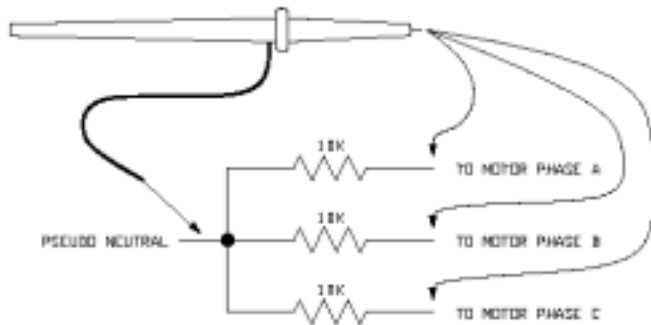

Figure 1-3: Motor Phase Voltage Observation Scheme
1. Connect the ends of three resistors to motor terminals, A, B, C (see *Figure 1-3*).
2. Use one channel of the oscilloscope to monitor motor terminal A with respect to the “Wye” neutral (the point where all resistors are connected together) refer to *Figure 1-3*.